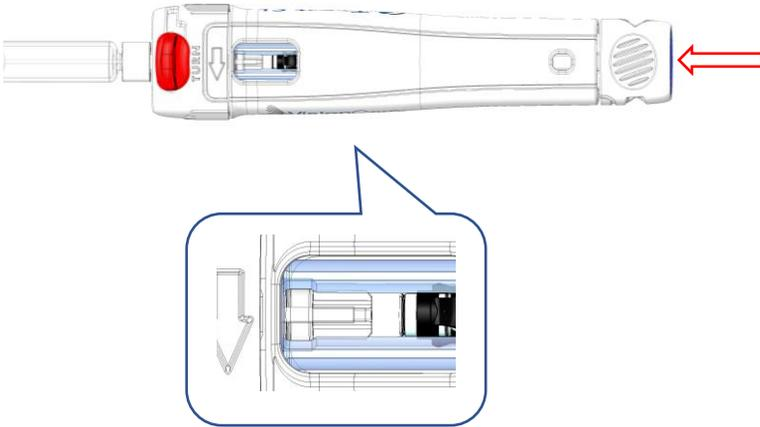

Figure 9
6. Push the plunger all the way in, and confirm visually through the upper window that the device was loaded (Figure 9).